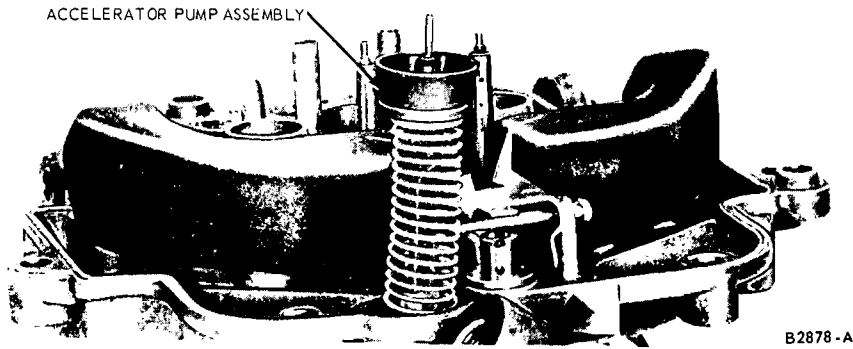

FIG. 15—Accelerator Pump in Position on Air Horn
2. Assemble the accelerator pump plunger (Fig. 15) and insert into air horn.
Line up holes in both levers and insert pivot pin through the No. 1 hole in levers and the air horn casting (Fig. 15). Install retainer on pin.